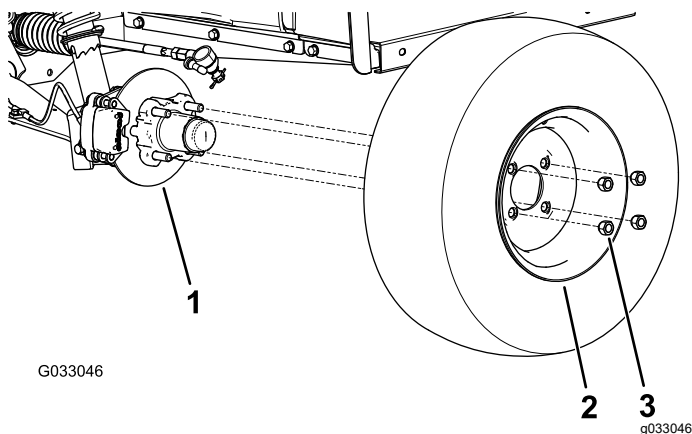

Figure 30
2. Remove the 4 lug nuts that secure the wheel to the hub (Figure 30).
4. Align the holes in the wheel to the studs of the hub and assemble the wheel to the hub with the valve stem outward (Figure 30).
5. Secure the wheel to the hub using the lug nuts (Figure 30).